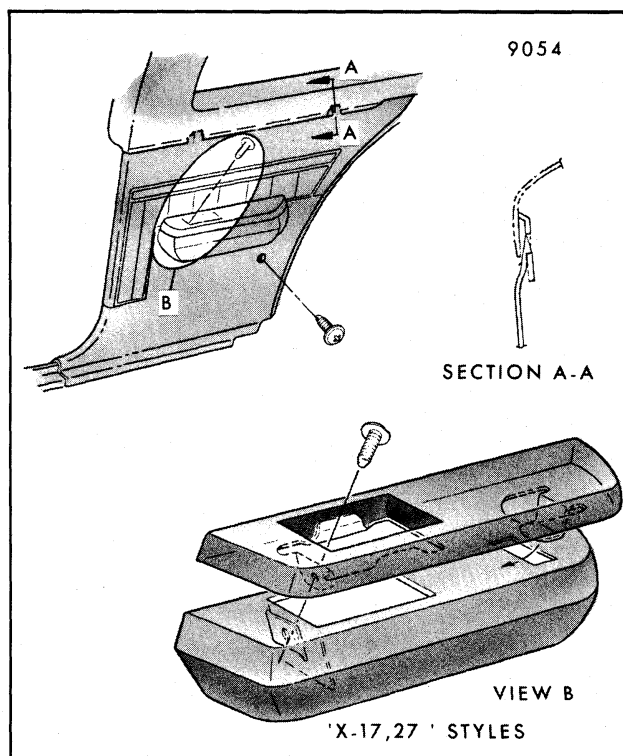

Fig. 6-8-Quarter Trim and Armrest Attachment - "X-17,27" Styles
- c. On "X" styles with deluxe trim, remove attaching screw under ash tray securing pad to armrest to gain access to two attaching screws. To remove trim on "X" styles with standard trim, remove single attaching screw at lower rear portion of trim (Fig. 6-8).